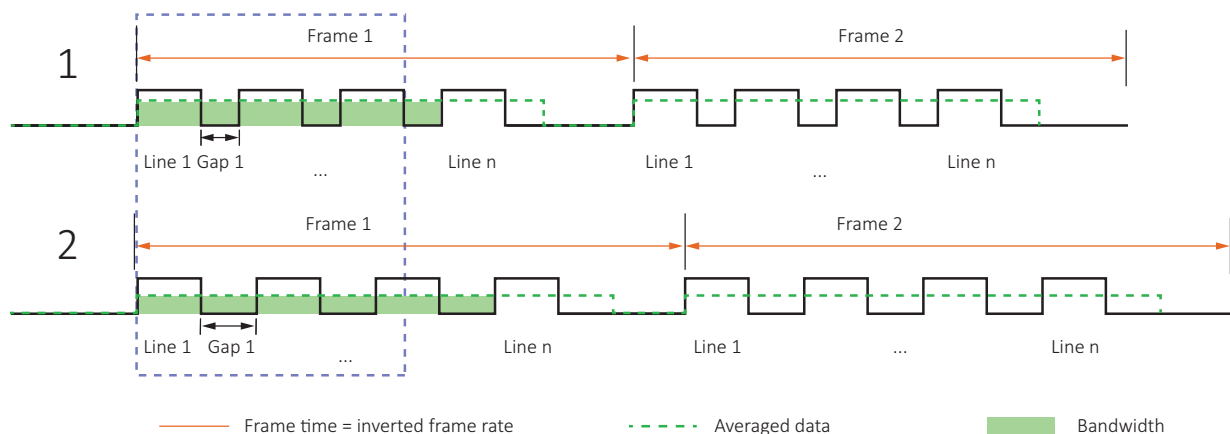

Figure 82: Sensor data output and camera data output
Figure 82 shows the bandwidth for a higher (1) and a lower (2) value for `DeviceLinkThroughputLimit`.